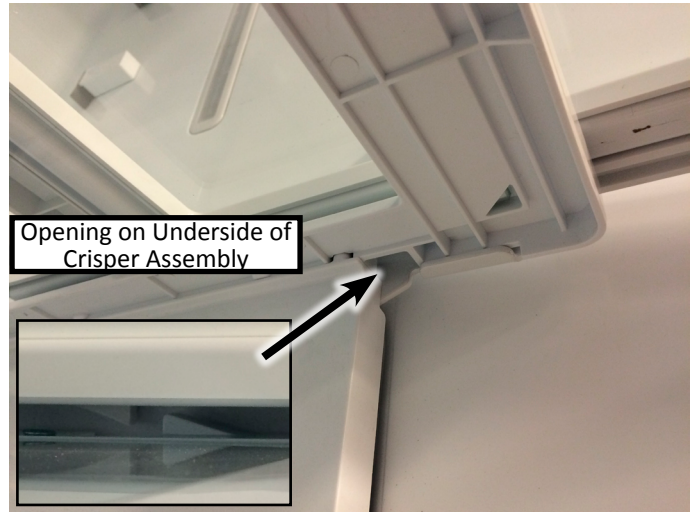

FIGURE 15: Shelf Tab Location
2. Fully extend the Platter Shelf, depress and release the two (2) tabs on the underside of the pantry shelf (FIGURE 15). Remove the shelf from the cabinet.